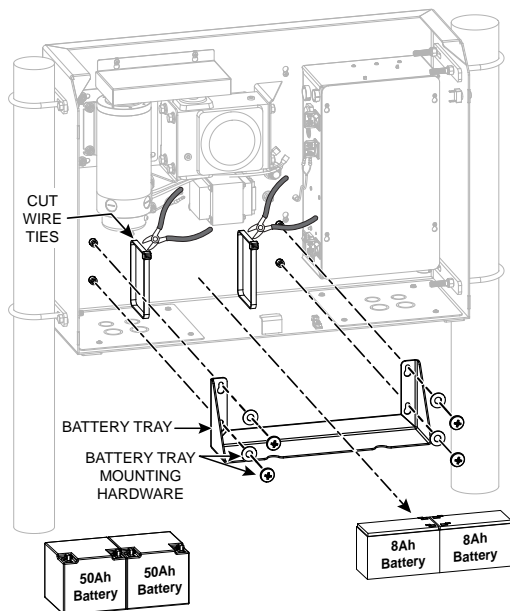

Figure 24. 8Ah Battery Removal
2. To access the 8Ah batteries and disconnect its wires, cut the two black wire ties and slide the 8Ah batteries through the access window. See Figure 24.